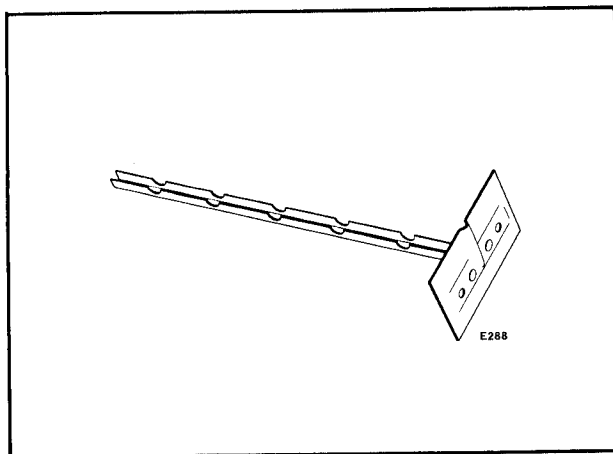

FIG. 5—PLENUM BULB HOLDER ACCESSORY.
1. Warm air: 107324A Bulb Holder (Fig. 5).